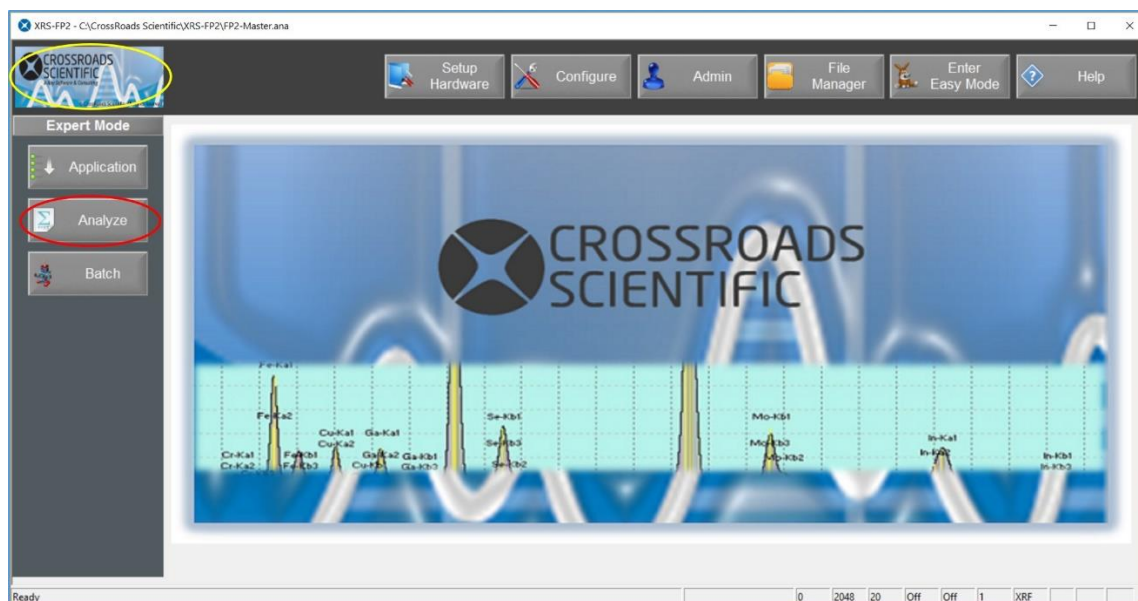

Figure 14. XRS-FP2 Analyze Workflow. From the XRS-FP2 home screen select the analyze button to collect, process and quantify spectra.
10. Now that the application has been defined, we move to the **Analyze workflow**. The next step is to extract intensities from the stainless steel 316 spectrum (associated with this *.ana file). To do this, go to the **Home** button and then select the **Analyze** button (see figure 14 below).